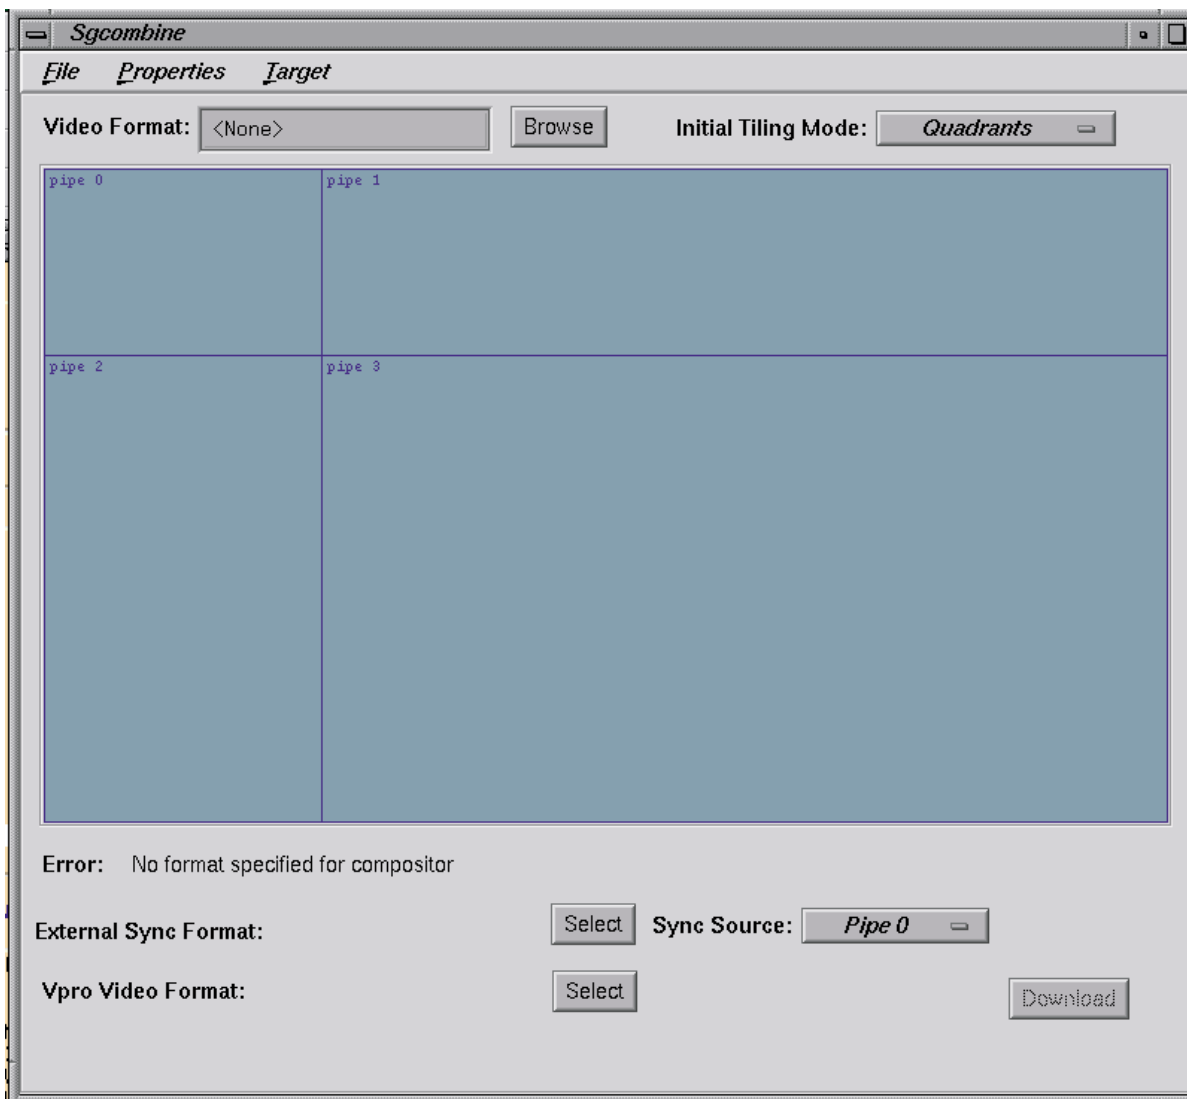

Figure 3-3 Example of Initial Tiling Mode (Quadrant)
- **Quadrants:** This selection divides the screen into four display areas. (This selection works only if you have inputs from four InfinitePerformance pipes.) Each InfinitePerformance pipe controls one quadrant of visual space that contributes to the whole display surface. Figure 3-3 shows an example of how the screen display can be divided with the **Quadrants** selection.